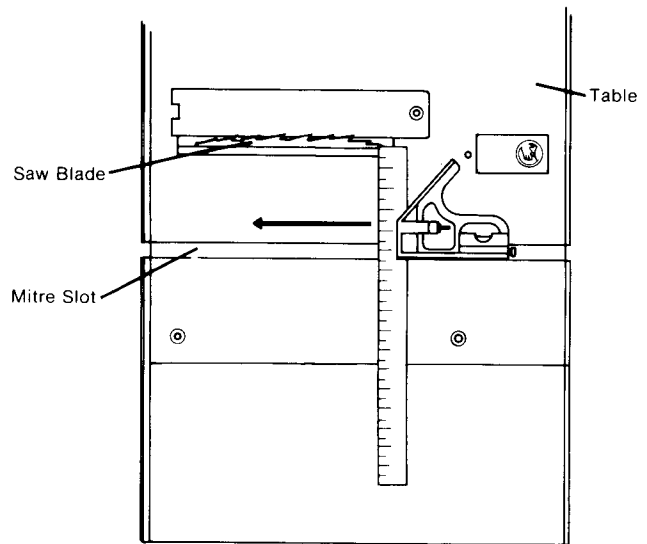

Figure 20
2. Place the base of a combination square against the edge of either Mitre Gauge Slot and extend the sliding rule of the square to just touch the front side of the saw blade closest to the Table Top as shown in **figure 20**. Do not let the sliding rule touch the tip of any tooth. Tighten the sliding rule of the square.
5. Slide the combination square back keeping its base against the edge of the Mitre Gauge Slot as shown in **figure 20**.